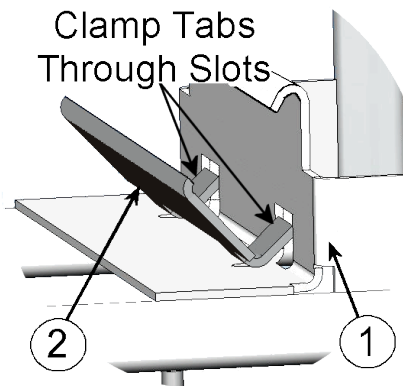

Fig. 1
- 1 Remove Bedside Valet (1) from the shipping container and cut the plastic strap retaining the hardware bag. Thread the leveling glides (3) into the bottom holes. If the unit will be used in a room with carpeting, snap the carpet grippers (4) onto the leveling glides.
- 2 Make sure the bottom clamp (2) is assembled with the tabs inserted into the slots of the Bedside Valet, with the tabs facing up Fig. 1